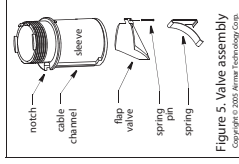

Figure 5. Valve assembly
Should the valve fail, it will need to be removed for servicing. Follow the steps below. If the valve assembly is found to be not immediately available, the valve sleeve must be installed in the multisensor housing for a watertight seal. Remove the flap valve, spring pin, and spring from this sleeve (Figure 5). Then reinstall the sleeve in the housing.
4. Clean, repair, or replace the valve assembly so the flap valve moves freely and seats against the sleeve (Figure 5).
7. Remove the safety wire from the multisensor. With the combined valve assembly and paddlewheel insert ready in one hand, remove the blanking plug. Slide the assembly into the multisensor housing with the arrow on the top pointing forward toward the bow. Be sure the cable fits into the key in the housing and the notch in the sleeve fits into the key in the housing (Figure 5). A pushing twisting motion will locate the key.